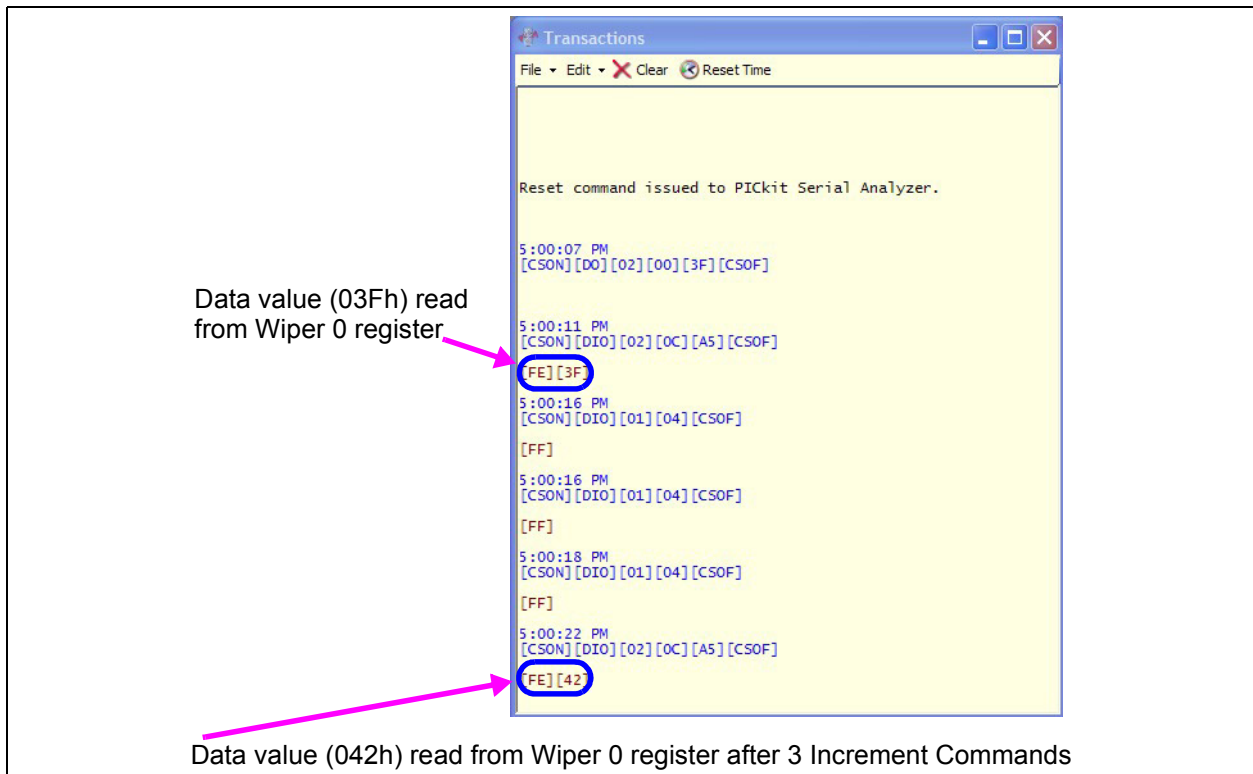

FIGURE 2-15: MCP4261 Transaction Window – Wiper 0 Increments.
28. Select the “ReadWiper0” script in the User SPI Scripts column and then click on the **Execute Script** button. The Transaction window shows the scripts that were executed and the current value of the Wiper 0 (see Figure 2-15)